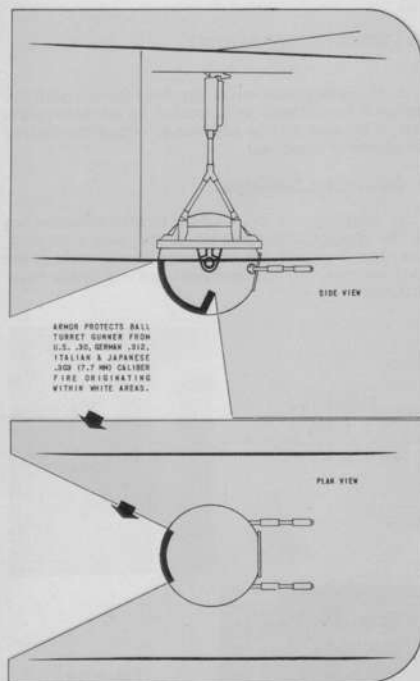

Figure 80 - Angles of Armor Protection
c. Armor Protection. - Refer to figure 80 for angles of armor protection.